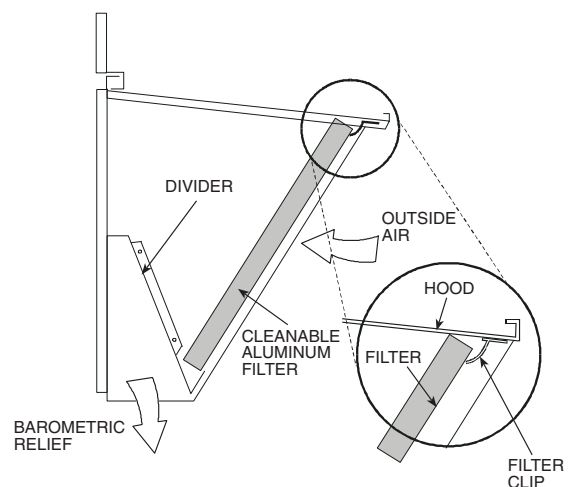

Fig. 25 — Economizer Filter Installation (Sizes 07-14)
5. Open the filter clips which are located underneath the hood top. Insert the aluminum filter into the bottom filter rack (hood divider). Push the filter into position past the open filter clips. Close the filter clips to lock the filter into place. See Fig. 25.